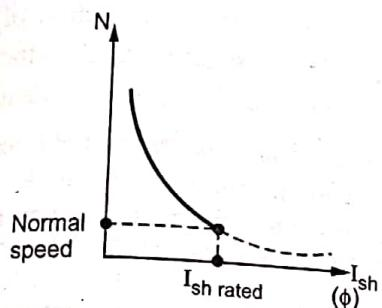

Fig. Q.51.4 N Vs  $I_{sh} (\phi)$  for shunt motor
- This is shown in the Fig. Q.51.4, by speed against field current curve. The curve shows the inverse relation between  $N$  and  $\phi$  as its nature is rectangular hyperbola.